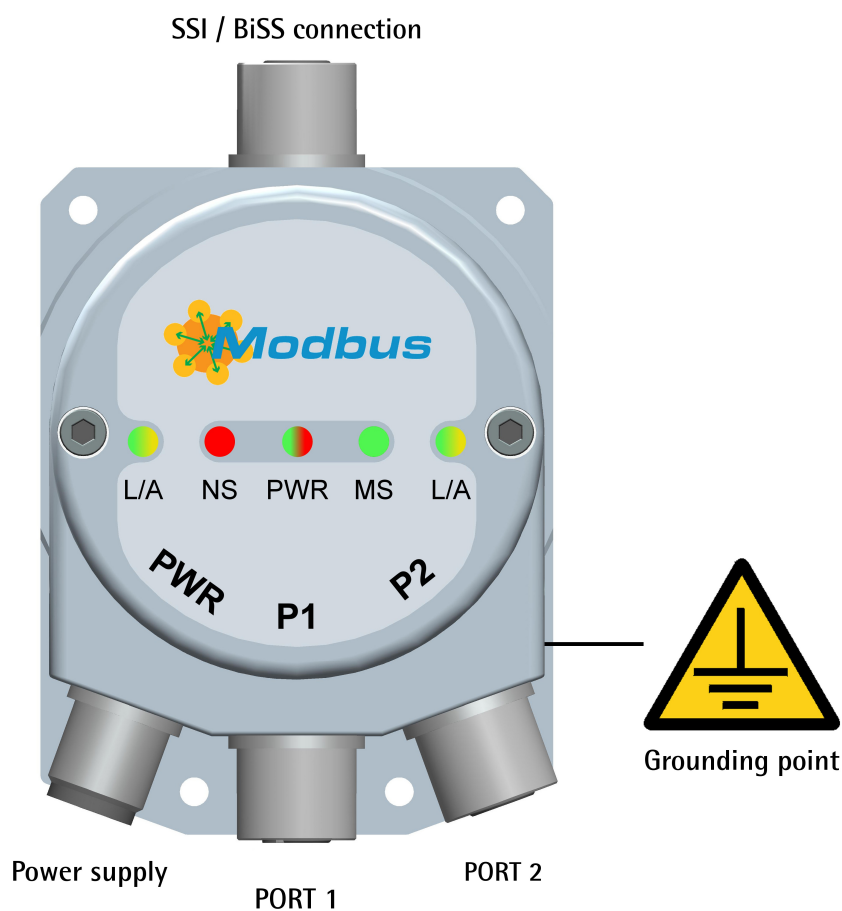

Figure 4 - Connectors and diagnostic LEDs
4.1 SSI / BiSS connection (Figure 4)
4.2 PWR Power supply connector (Figure 4)
4.3 P1 Port 1 and P2 Port 2 connectors (Figure 4)
To minimize noise connect properly the shield and/or the connector housing and/or the frame to ground. Connect properly the cable shield to ground on user's side. Lika's EC- pre-assembled cables are fitted with shield connection to the connector ring nut in order to allow grounding through the body of the device. Lika's E- connectors have a plastic gland, thus grounding is not possible. If metal connectors are used, connect the cable shield properly as recommended by the manufacturer. Anyway make sure that ground is not affected by noise. It is recommended to provide the ground connection as close as possible to the device. We suggest using the ground point provided in the cap (see Figure 4, use 1 TCEI UNI M3 x 6 cylindrical head screw with two tooth lock washers).